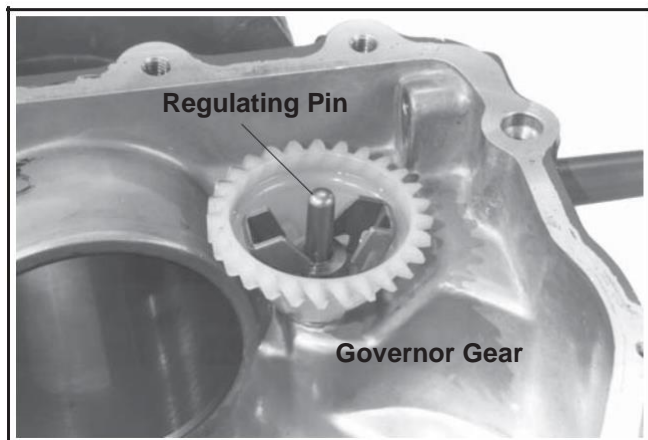

Figure 9-53. Removing Governor Gear.
4. If necessary, remove the governor gear and regulating pin. See Figure 9-53.